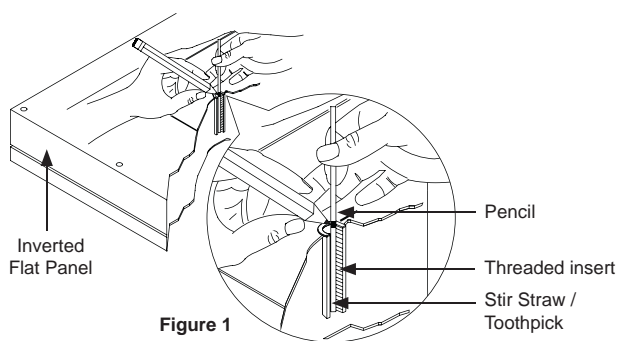
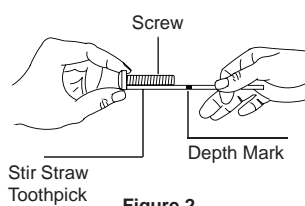
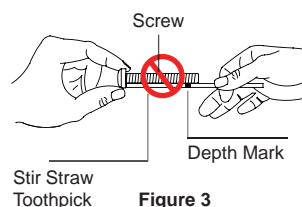

Figure 1
Figure 2
Figure 3
- ① Insert the straw/toothpick into the thread inserts found on the bottom or top of the flat panel.
- ② Use a pencil to mark the depth of the thread insert on the stir straw/toothpick, as shown in figure 1.
- ③ Insert the straw/toothpick into the remaining thread inserts to compare and verify their depth.
- ④ Locate the correct diameter screw for the thread insert.
If the screw you selected is longer than the mark on the stir straw/toothpick, as shown in figure 3, do not use this screw. The screw length must not bypass the mark, as shown in figure 2. The screw must be threaded in a minimum of four (4) complete turns.